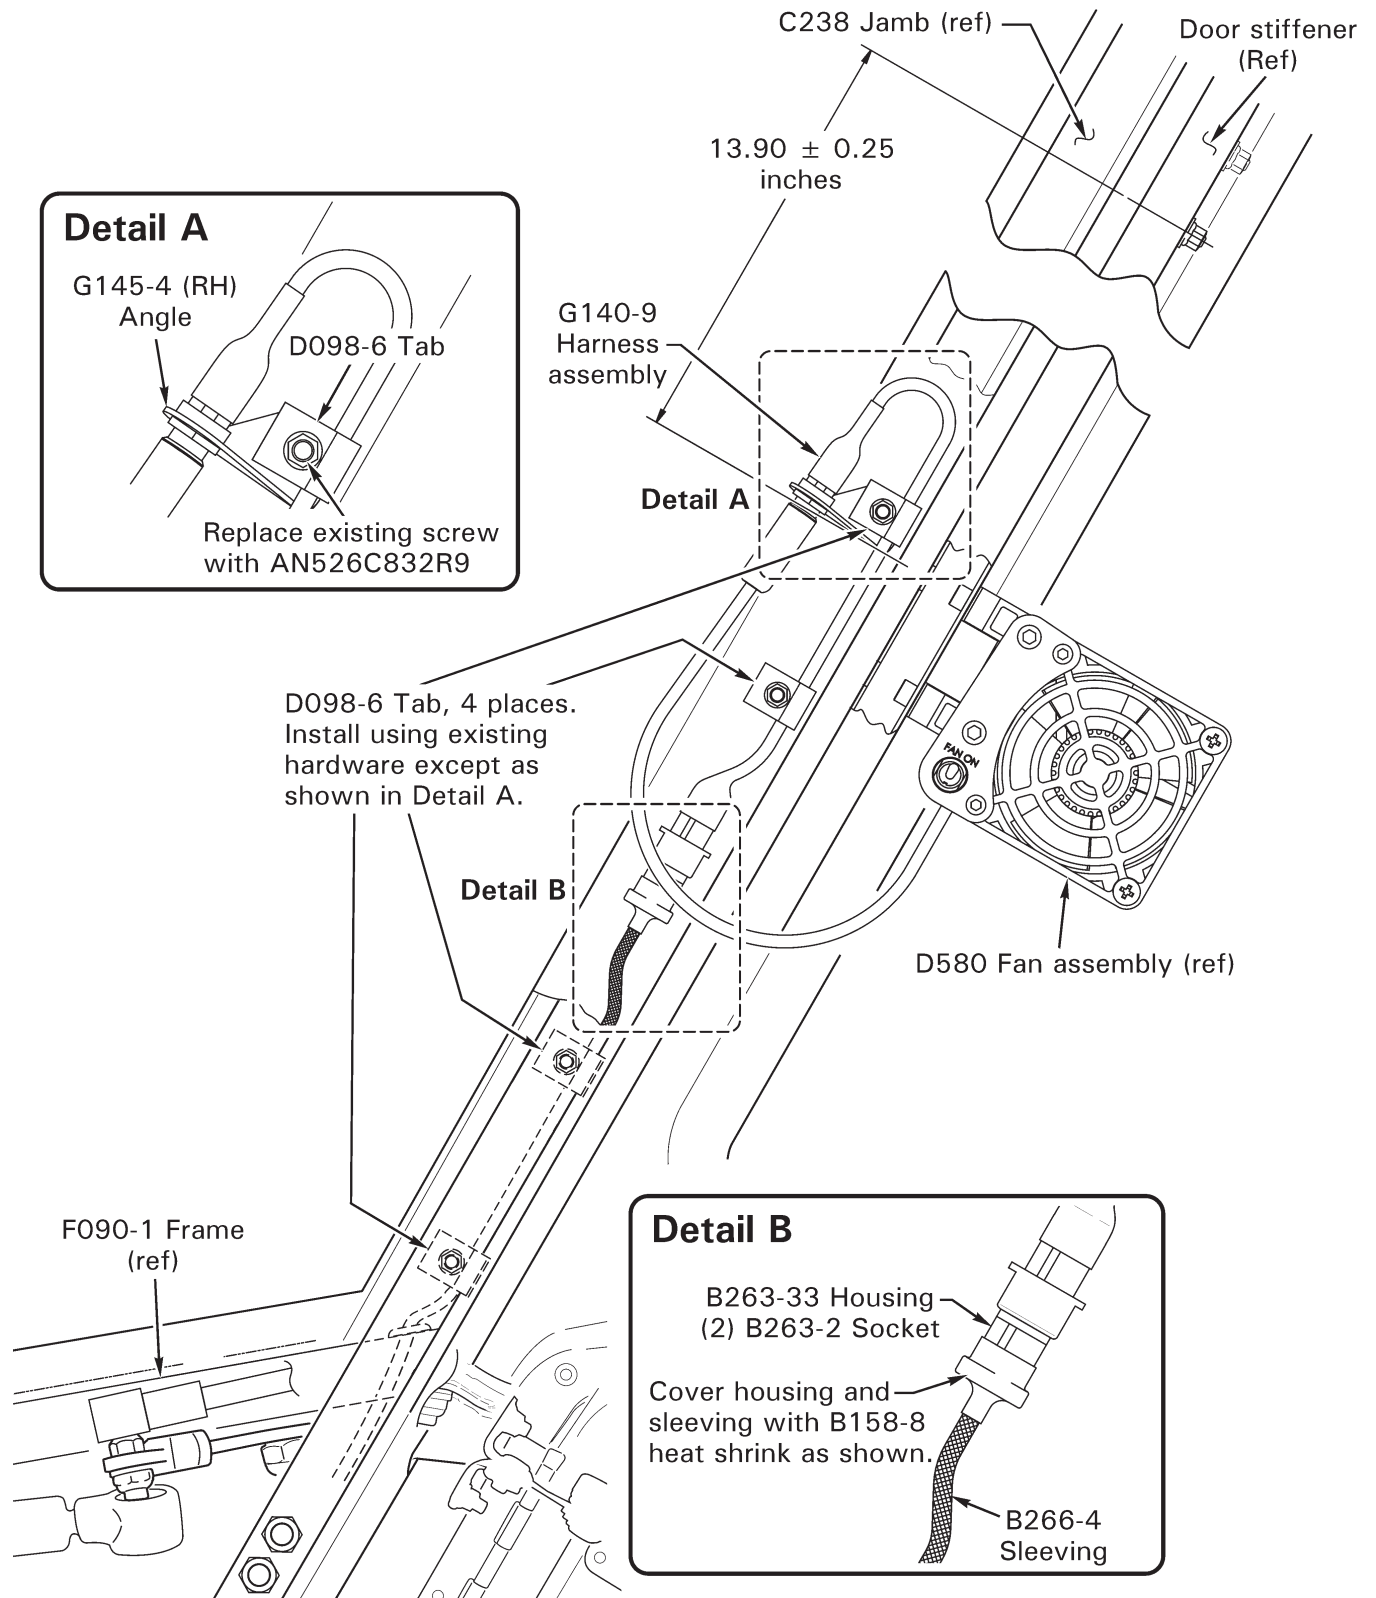

FIGURE 1
7. Refer to Figure 1. Install G145-4 angle, D098-6 tab, and G140-9 harness assembly as shown, replacing existing screw with AN526C832R9 screw and securing harness assembly wire in C238 jamb. Install a second D098-6 tab below first as shown, using existing hardware.
14. Refer to Figure 1. Install third D098-6 tab just above F090-2 frame using existing hardware. Install fourth D098-6 tab (above) in C238 jamb using existing hardware and securing sleeve-covered wires. Verify sleeve-covered wires are not pinched and are held securely in C238 jamb.
15. Refer to Figures 1 & 4. Cut wires (-2881) & (-2880) and B266-4 sleeving to length. Strip wire ends and crimp a B263-2 socket on each wire. Inspect crimp per MM § 20-94 and verify security of socket. Install wire -2880 socket in location 1 and wire -2881 socket in location 2 of B263-33 housing. Verify security.
17. Refer to Figures 1 & 2. Verify newly installed wiring is secure without preload or pinched wires. Move flight controls through full travel and verify clearance. Install D275-201 fuse in D262-10 fuse holder.